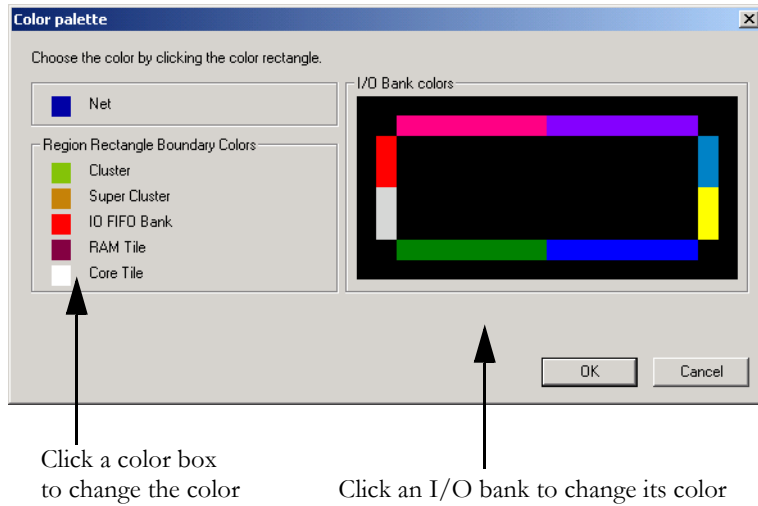

Figure 1-2. Color Manager
1. Click **Color Manager** from the View menu. The color manager dialog box is displayed, as shown in Figure 1-2.